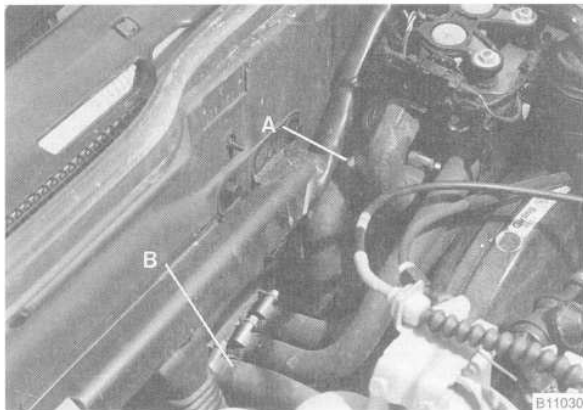

Fig. 24. Heater hoses at heater valve (A) and heater core (B).
8. Disconnect the heater hoses from the heater valve and heater core. See Fig. 24.